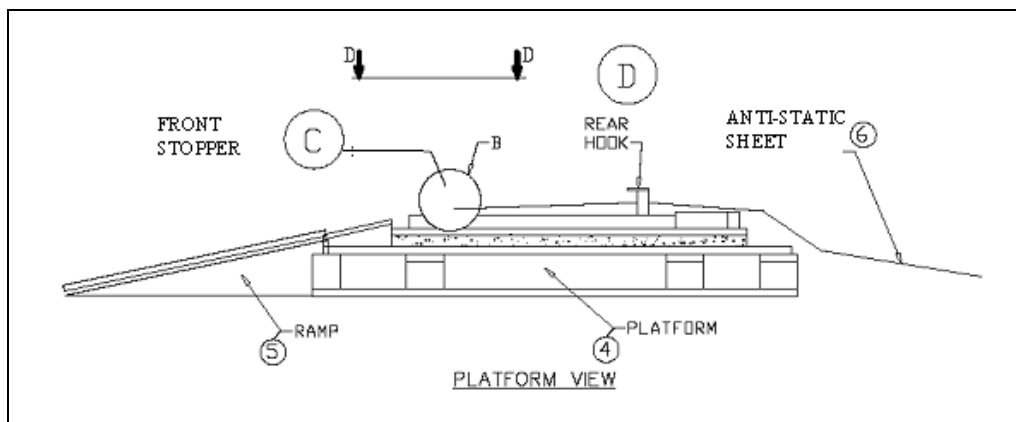
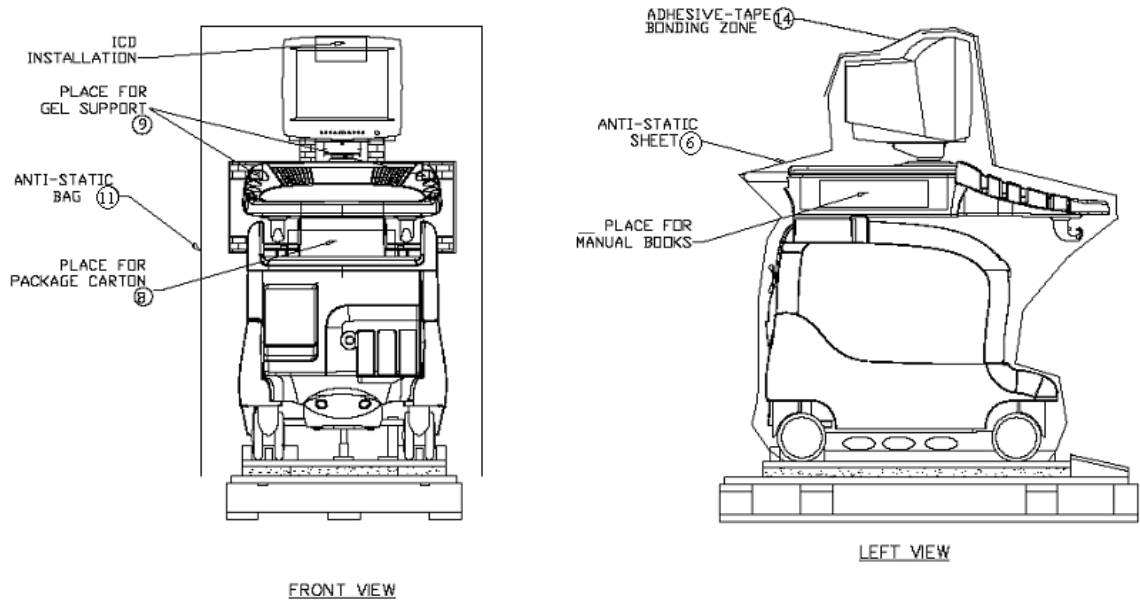

Figure 3-7 Platform View of Shipping Carton
Figure 3-8 Front and Side View of the Unit in the Shipping Carton
- 1) Cut and remove the three securing steel strips (item 13).
- 2) Cut the adhesive tape along the center of the top of the cardboard shipping carton (item 14).
- 3) Remove all the fastening staples (item 15) and remove the two screws (item 16) so that the cardboard carton (item 12) is free of the wooden platform (item 4), and the narrow flap is free.
- 4) Open the narrow side flap of the carton, remove the ramp (item 5) and attach it to the narrow side of the wooden platform (item 4 in Figure 3-7 below).
- 6) Clear away the carton cover (item 12) from the wooden platform on which the ultrasound unit is standing.
- 7) Cut and remove the antistatic sheet (item 6 in Figure 3-7, above) that is wrapped around the ultrasound unit, taking care not to damage the antistatic cover (item 11 in Figure 3-8 below) covering the unit. Remove the antistatic cover.
- 11) Raise the control console (monitor) by pressing the release grip located under the unit's front handle and remove the two cartons (item 8 in Figure 3-8 on page 3-11) from underneath the control console. These cartons contain the external cables and accessories.
- 13) Remove the manuals (item 4 in Figure 3-8 on page 3-11) from the compartment on the left side of the ultrasound unit.